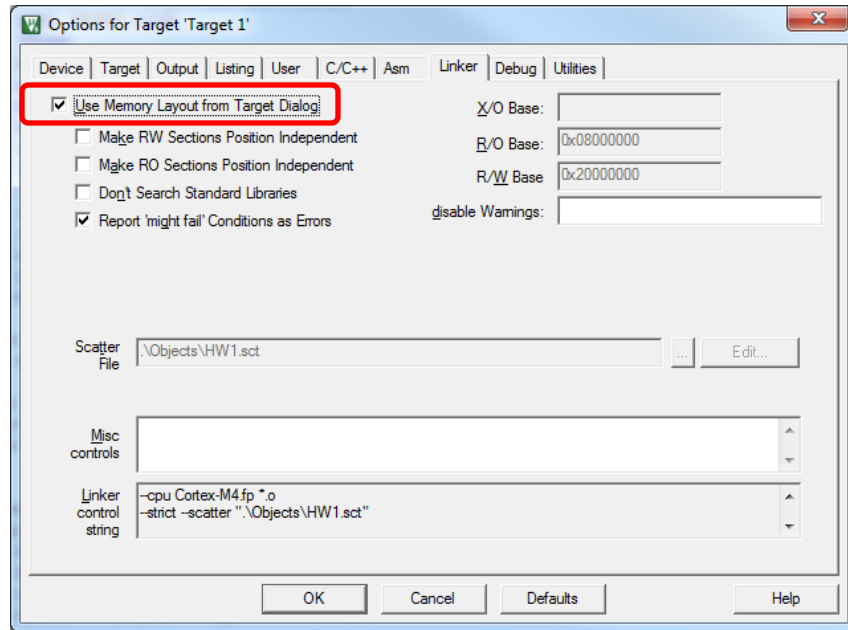

Figure 10. Check box *Use Memory Layout from Target Dialog* to use memory addresses entered on the *Target* tab for the R/O and R/W areas.
- Select the **Linker** tab, and check the box **Use Memory Layout from Target Dialog** (Figure 10), so that the ROM and RAM memory addresses entered in the Target tab are used for read-only and read-write areas.